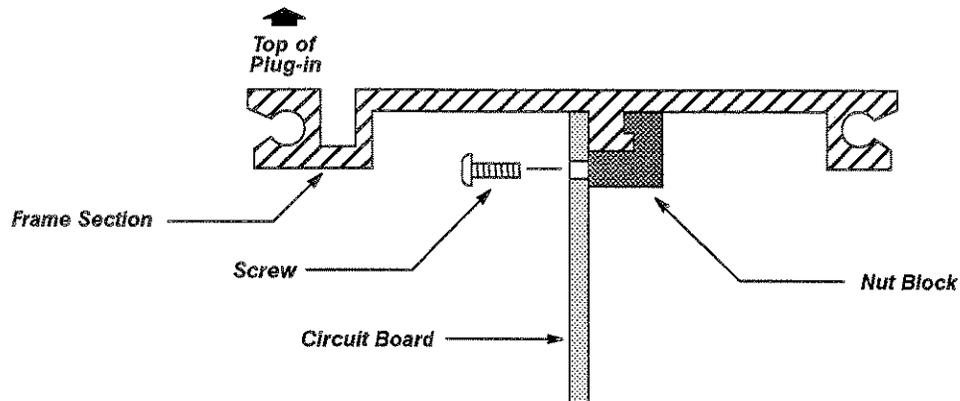

Figure 3-6 – Location of a Nut Block Securing the Circuit Board to the Frame Section
- Step 4: Use a narrow-shank, Torx T-10 screwdriver to remove the six screws and nut blocks that secure the A1 Main board to the top and bottom frames. Figures 3-6 and 3-7 show nut blocks.